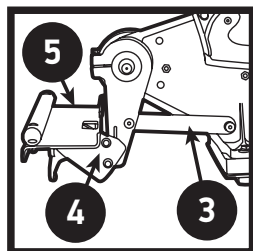

Figure 4
5. Using a 3/16" Allen wrench, remove two screws from table support arm mounting block and attach mower blade support table. Tighten securely, making sure to place washers on the outside of bracket on mower blade support table. (Figure 4)